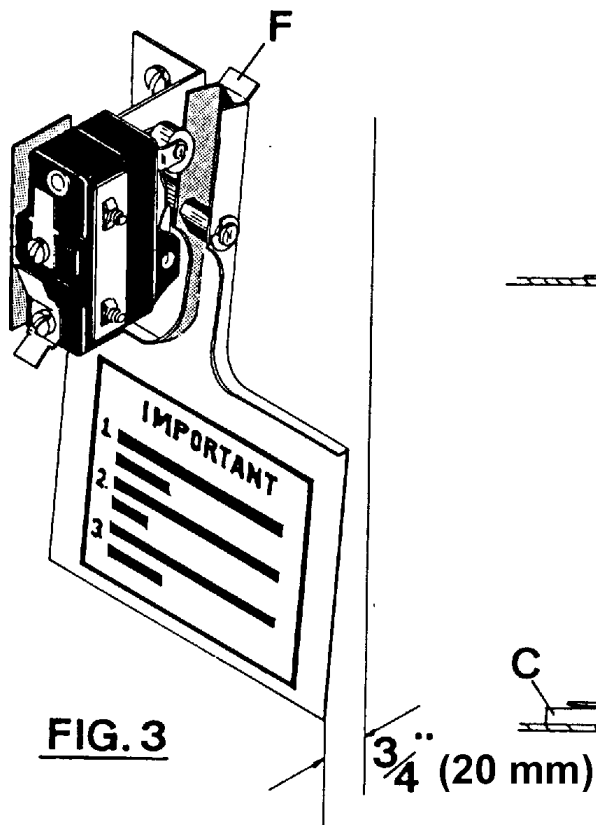

FIG. 1
1. Loosen bolts number one (1) through five (5).
2. Place pin "A" in position shown in figures 1 and 2.
3. Check pins "B" at position shown in figures 1 and 2 for equal clearance.
2. Lay air switch assembly on flat surface. Adjust air blade at "A" (figure 1) so that air blade lays flat and surface "B" is parallel to the flat surface.